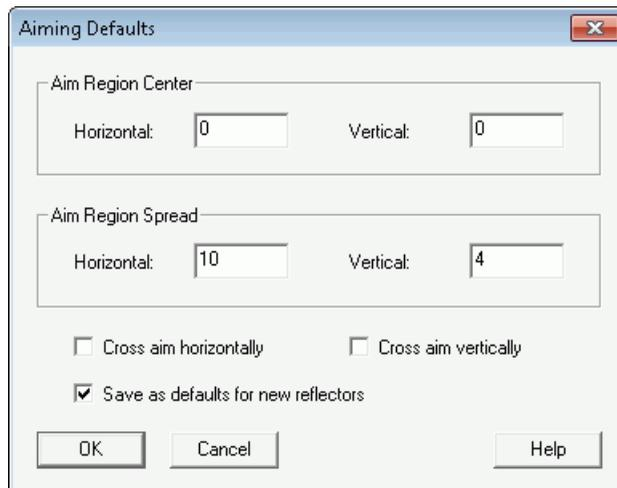

Figure 1.10 Setting default segment aiming
- Click **Segment, Default Aiming**, complete the dialog box as shown in Figure 1.10, and click **OK**.